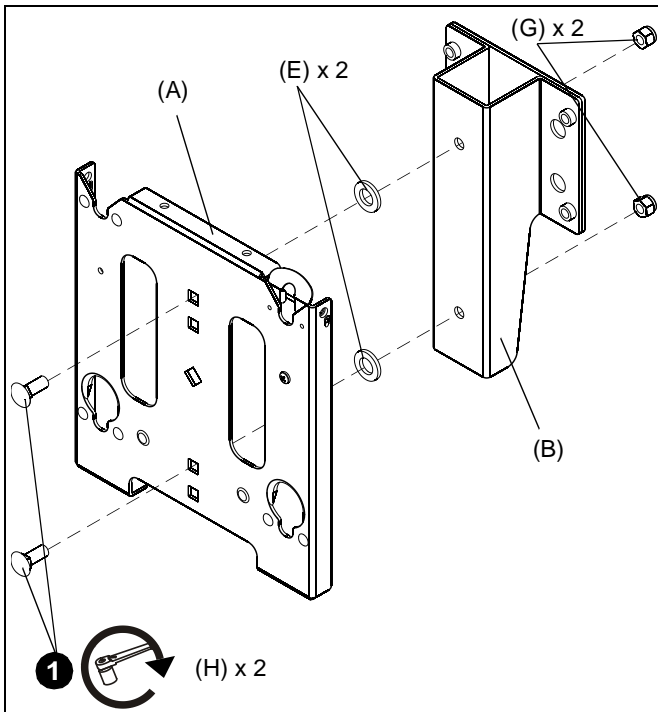

Figure 1
1. Attach faceplate (A) to bracket (B) using two 3/8-16 x 1" roundhead carriage bolts (H), two spacers (E), and two 3/8-16 Nylock lock nuts (G). (See Figure 1)
1. Attach first faceplate (A) to bracket (B) using two 3/8-16 x 1" roundhead carriage bolts (H), two spacers (E), and two 3/8-16 Nylock lock nuts (G). (See Figure 1)